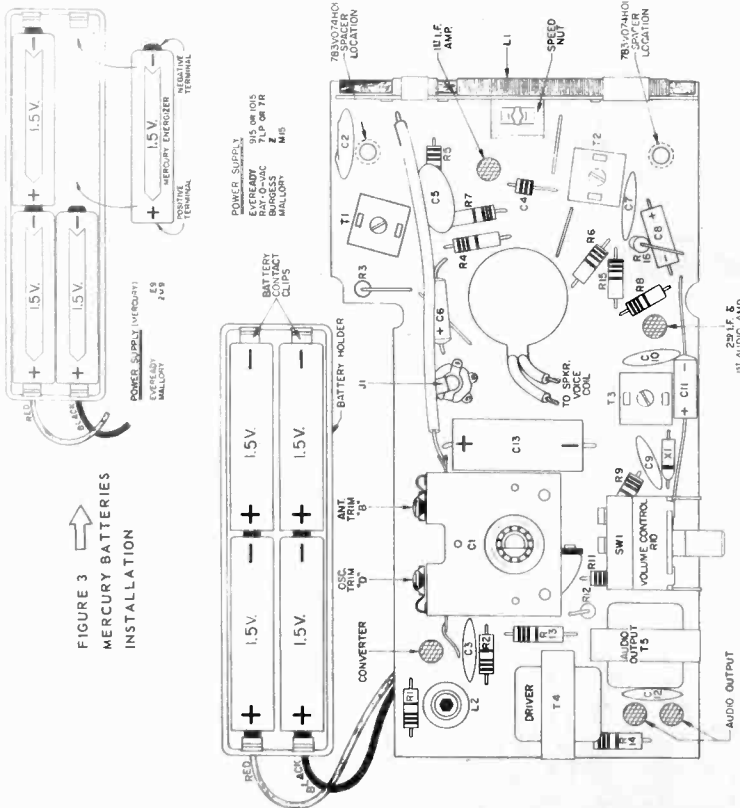

FIGURE 4 - TOP VIEW OF PRINTED CIRCUIT CHASSIS
**INDICATOR** — Connect a VTVM or output meter across the voice coil at points shown in figure 4.